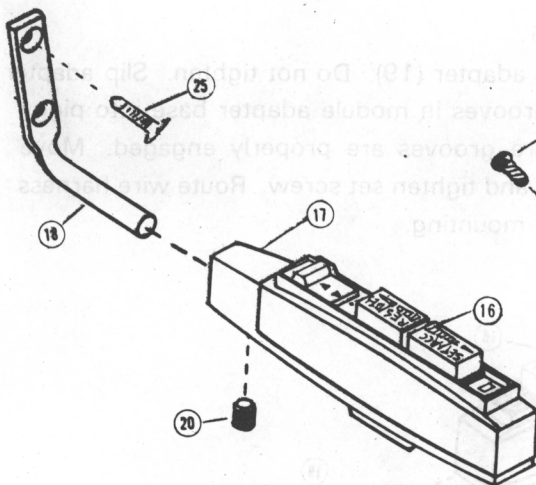

Figure 4.6
B. STEERING COLUMN MOUNTING—FIG. 4.6
The command module can be mounted to the steering column using the module adapter (17) and the mounting bracket (18), see Fig. 4.6. Insert bracket into hole in the adapter. Position assembly on steering column cover in a location which provides unobstructed viewing and activation of the controls. Using the bracket as a template, mark hole position and drill two $\frac{3}{32}$ " dia. holes. Be careful not to drill into the steering column, turn signal mechanism, or wiring. Use two #6x5/16" flat head screws (25) to attach mounting bracket. Rotate module on bracket to desired position and tighten set screw (20) using screw drivers.